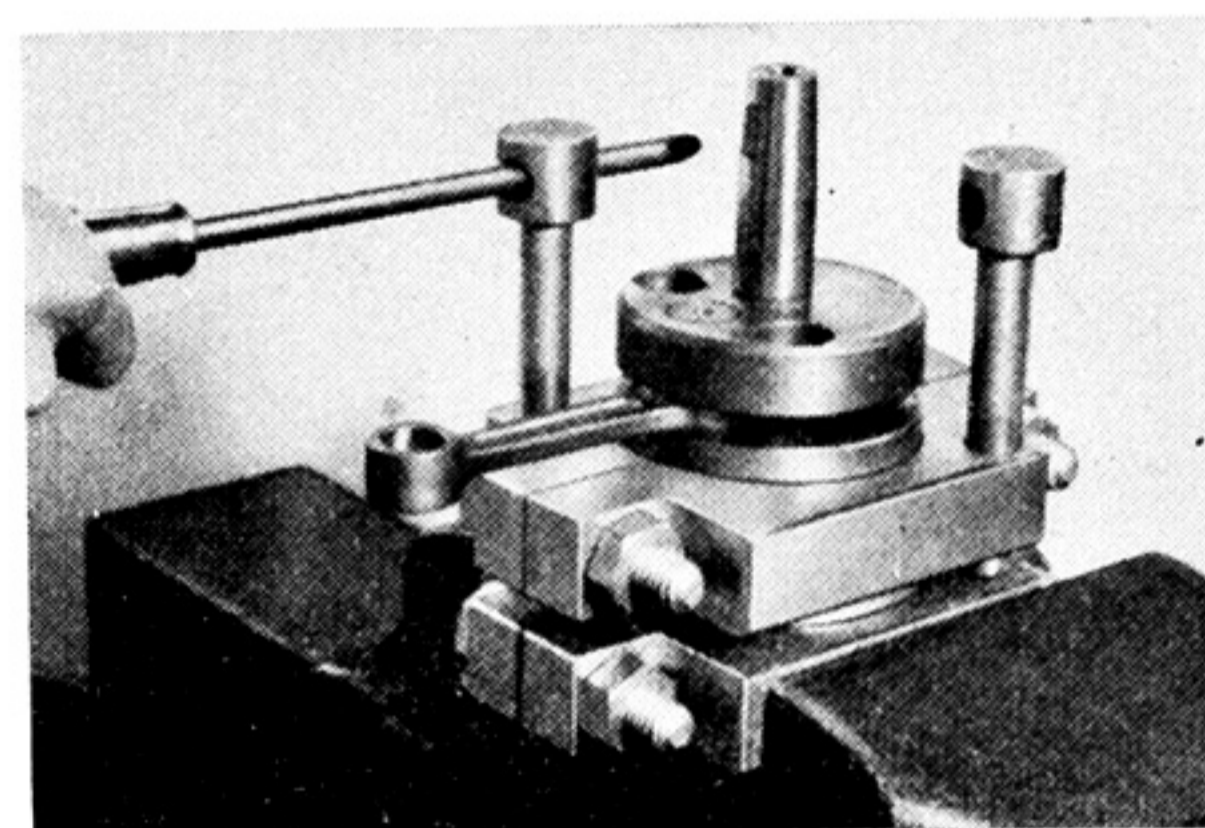

Fig. 3-16-8
- d. Hold the crankshaft ass'y in a vice, and disassemble the ass'y into two parts by alternately giving one turn to each bolt (3) which is installed on the tool (2), so that the crankshaft ass'y splits into two parts. (Fig. 3-16-8)